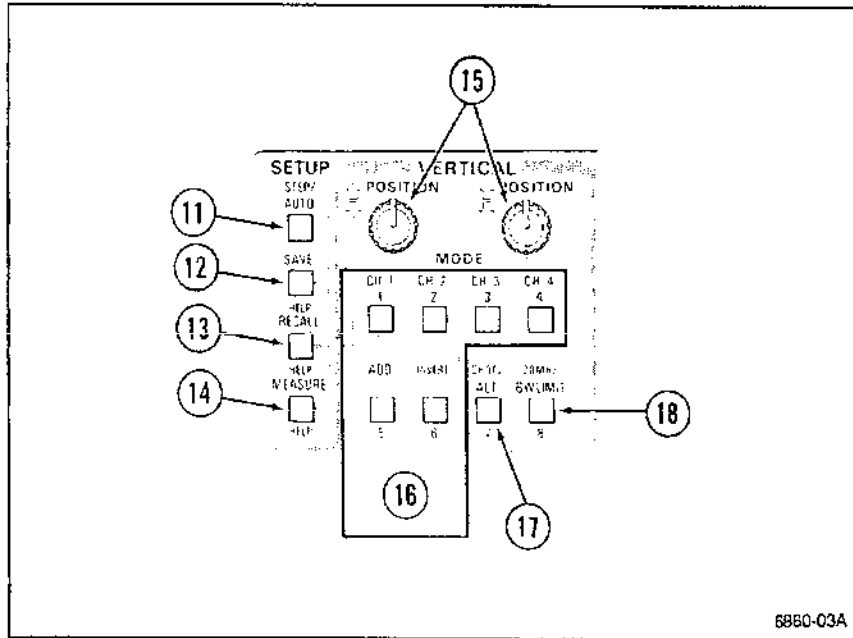

Figure 5-2. SETUP and MODE buttons, and CH 1 and CH 2 POSITION controls.
Refer to Figure 5-2 for the location of items 11 through 18.
- ⑭ **MEASURE Button** Activates the Parametric Measurements menu. Selections from the menu are made using the VERTICAL MODE buttons. Repeated activation of the MEASURE button will cycle through a series of explanatory text in the lower CRT readout.
- ⑮ **POSITION Controls** Set vertical position of the Channel 1 and Channel 2 signal displays. Clockwise rotation of a control moves the associated trace upward. When the X-Y display feature is in use, Channel 1 POSITION control moves the display horizontally; clockwise moves it to the right. The Channel 2, Channel 3, and Channel 4 vertical POSITION controls move the associated X-Y display vertically.
- ⑯ **MODE Buttons** Select the indicated channel(s) for display. Any combination of the five possible signal selections can be displayed by pressing the appropriate buttons. The Channel 1 signal will be displayed if none of the displays are selected. Each button has an associated indicator to show when the respective display or characteristic is active. Pressing a button toggles the display or characteristic on or off. When pressed after pressing SAVE or RECALL, these buttons select setup memories (1) through (8).